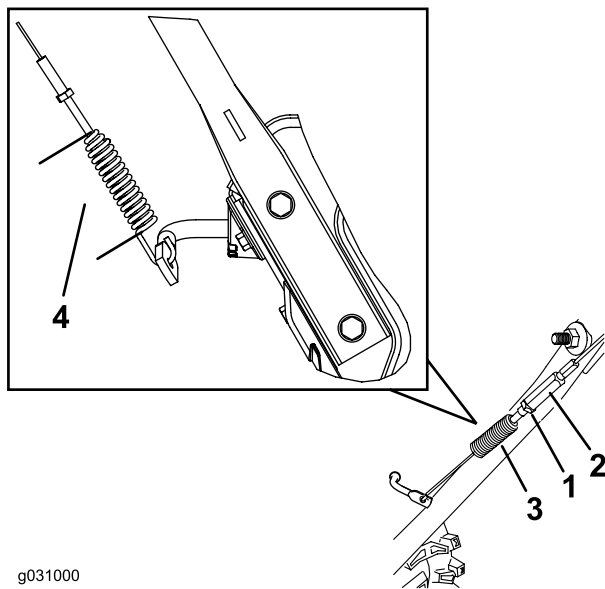

Figure 38
- Loosen or tighten the turnbuckle to adjust the spring length to 7 cm (2-3/4 inches) as shown in Figure 38.
- Tighten the jam nut (Figure 38), ensuring that there is slight tension on the cable.